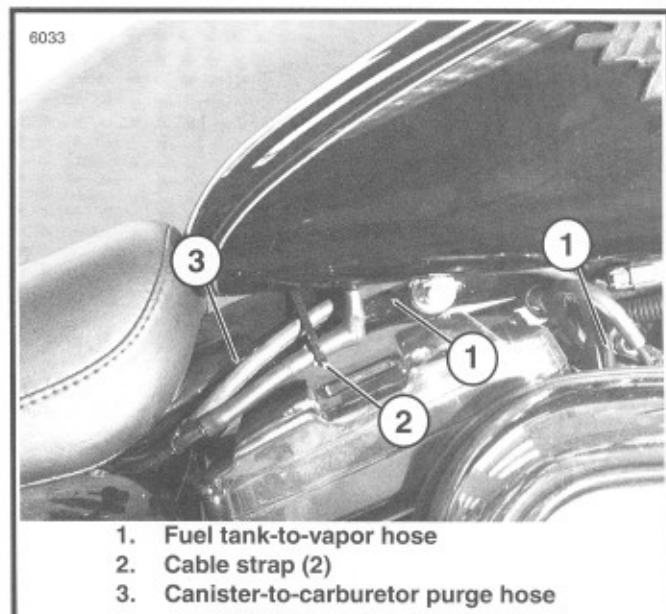

Figure 4-25. Emissions Control Hose Routing
3. See Figure 4-25. Route both the canister-to-carburetor purge hose (3) and the fuel tank-to-vapor valve hose (1) forward along the right side of the frame backbone.